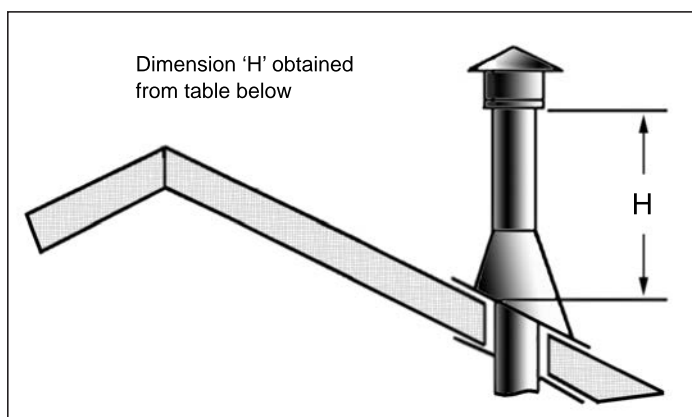

Figure 38: Height of Vertical Termination;
- STEP 8.** Continue to add pipe sections until the height of the vent cap meets the minimum code requirements. Refer to Figure 38 and Table 6. Note that for steep roof pitches, the vent height must be increased. In high wind conditions, nearby trees, adjoining roof lines, steep pitched roofs, and other similar factors can result in poor draft, or down drafting. In these cases, increasing the vent height may solve the problem.